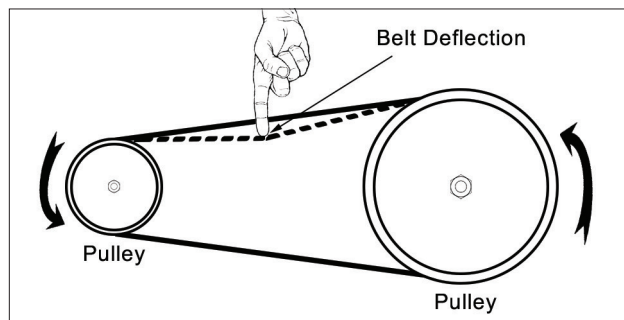

FIG. 17
3. Tension, or the deflection of the V-belt should be about 1/4" to 3/8" when moderate pressure is applied onto the belt with your finger. FIG. 17.
9. While the sander is still apart, set the belt tension. See page 13 for instructions on tightening the two bolts that apply belt tension. FIG. 17. The sander will have to be tipped back up to its normal position for this step.